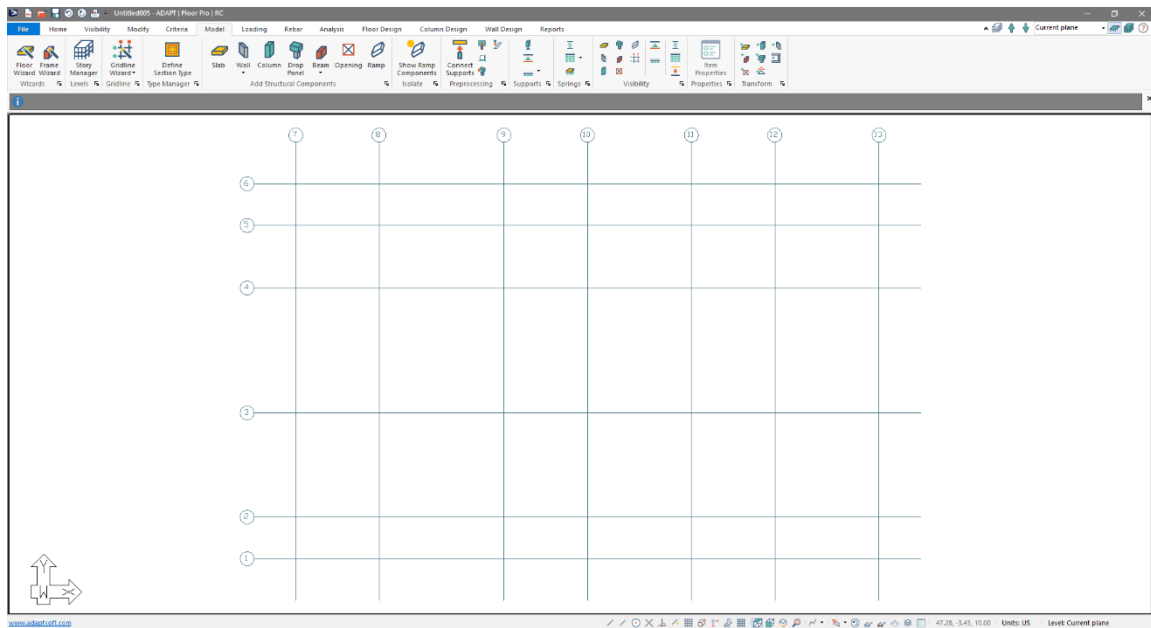

Figure 2-4
- Click on the *Zoom Extents* icon  in the **Bottom Quick Access** toolbar. The user should see the gridlines for the model as shown in **FIGURE 2-4**. Note that at this point the gridlines all have the same label.